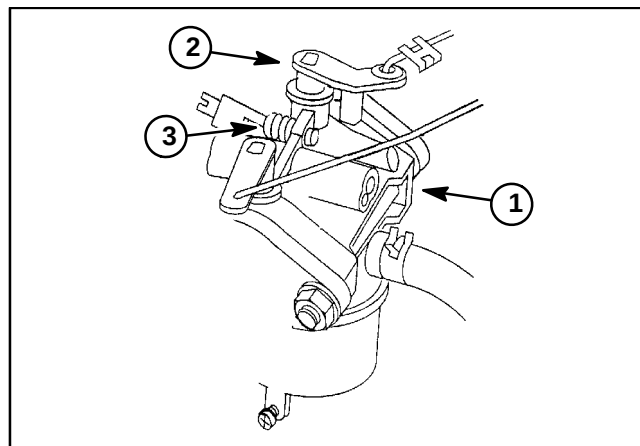

Figure 5
7. Rotate and hold carburetor throttle lever against the idle speed screw (Fig. 5). Using a tachometer, check that engine idle speed is **1400 to 1550 RPM**. If idle speed is incorrect, adjust carburetor idle speed screw to obtain **1400 to 1550 RPM**.